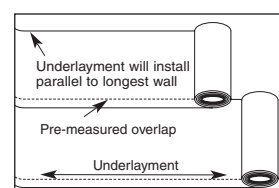

Figure 12
- The floating floor underlayment already has double-sided tape for ease of taping the precut overlapping seams (Figure 12). If a non-adhesive underlayment is used, tape all seams with the included tape.